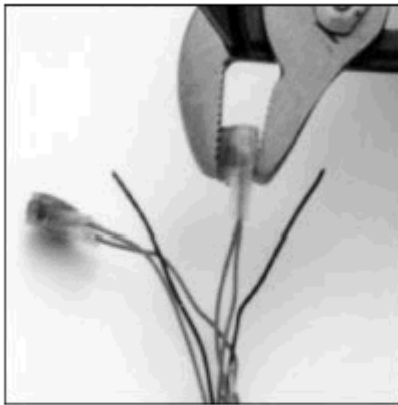

Figure 2.14 Depressing the Scotchlok Button
6. Using a Scotchlok crimping tool or a pair of Channel locks, squeeze the “button” on the Scotchlok until it is completely flat (Figure 2.14).